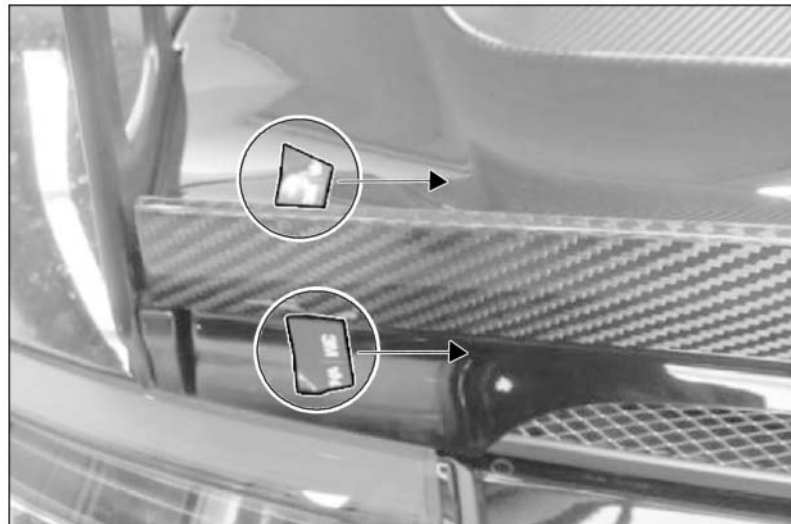

Figure 74
- 48. – Remove approx. 5 cm of the backing film from the adhesive strip on the gurney and position this piece of the film such that it protrudes when the gurney is attached ⇒ Figure 74.
- 49. – First, slowly pull the backing film from under the gurney at the rear of the rear cover while pressing the gurney firmly against the rear cover. In the next step, pull off the carrier film at the top between the gurney and the rear cover and press the gurney firmly against the rear cover ⇒ Figure 74. **Note:** Press the adhesive surfaces as flat as possible for at least 10 seconds